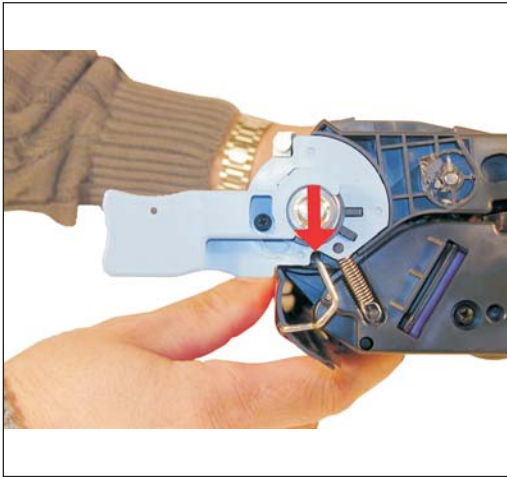

Figure 13
1) Open the drum cover, and remove both sides of the metal hinge bar from the cartridge. See Figures 13 & 14